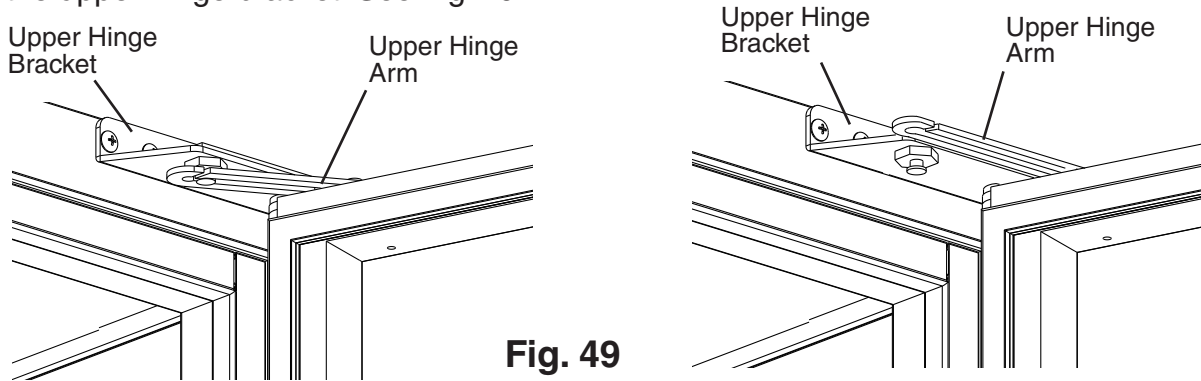

**Fig. 47**
- 3) At the center hinge, place wrench B on the tension rod and hold (prepare for tension pressure), then using wrench A, loosen the lock nut. See Fig. 47.